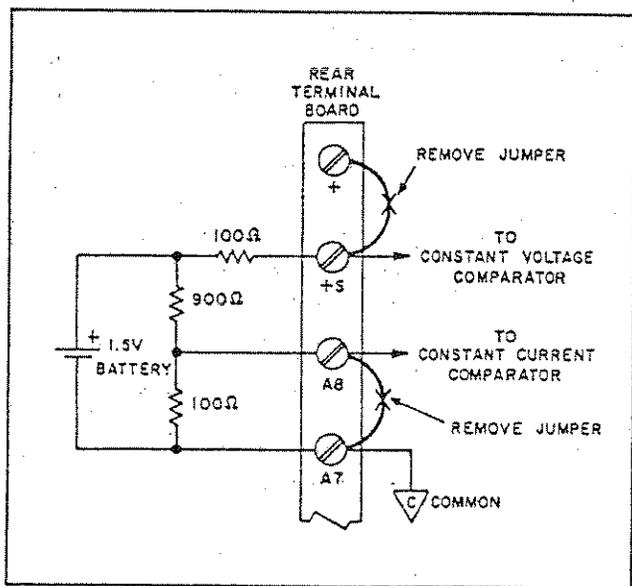

Figure 5-9. Open Loop Test Setup, Amplifier Circuit
- Connect external battery and resistors as shown in Figure 5-9. A "D"-size flashlight cell is adequate for this test.
- Connect test setup of Figure 5-9.
- Use test setup of Figure 5-9. Ensure that circuit is open loop (jumper A1R149 removed).